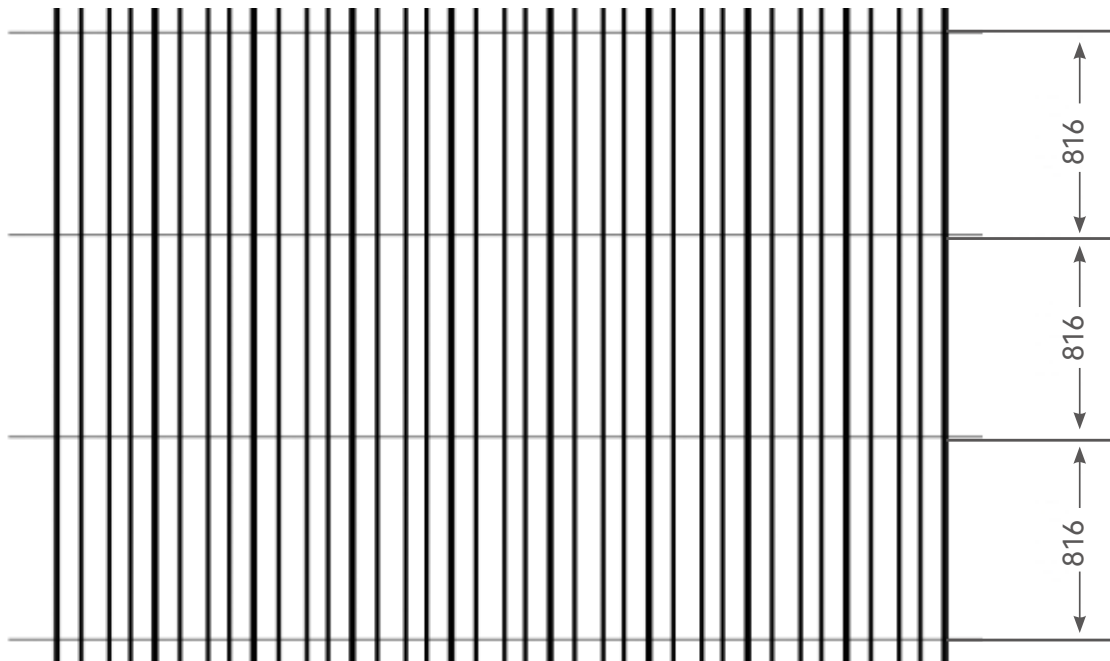

FIGURE 36
① Mark the position of Galaxy and the clamps with snapline, the centre line of each row of the clamp is $816 \pm 2\text{mm}$ apart, note that the snapline is perpendicular to the ridges of Klip-lok roofsheet(Figure 36)